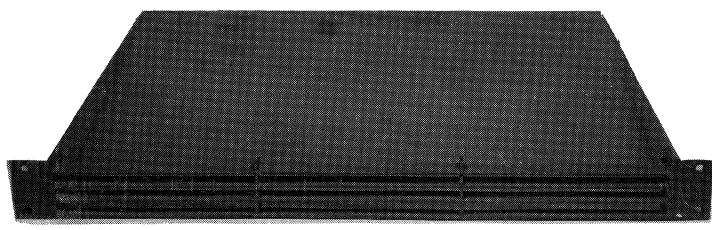

Fig. 5-2 Air-flow unit (PM 9799)
1. Free air convection (see fig. 5-2 and 5-3).